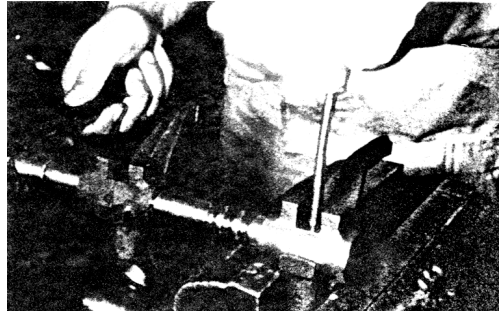

Fig. 3-21
a) Place the spring and the steel ball into the hole of the shift forks and put the shift lever in and then slightly knock at the lever to fit them properly (See Fig.3-21).